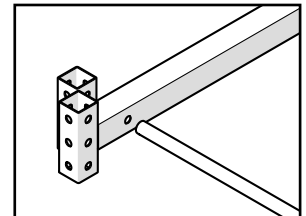

FIG. 1
2. Put the one conduit tube on gate side and the other conduit tube on the opposite side. Loosely attach the conduit tubes and compression mount assemblies together with 1/2" - 13 x 4 inch hex bolts on each side. (Fig. 1)